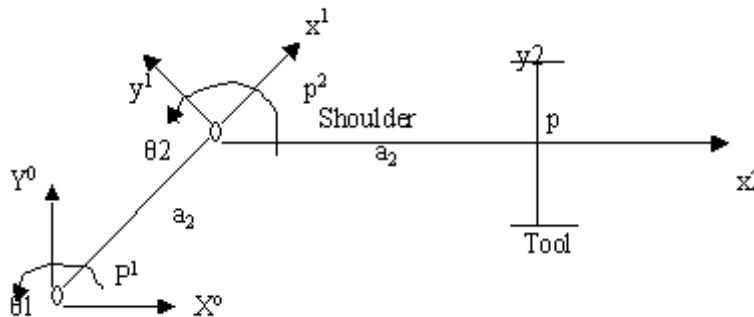

Figure 4:
5. Find the manipulator jacobian matrix $J(q)$ of the two-axis planer articulated robot shown in figure4. [16]